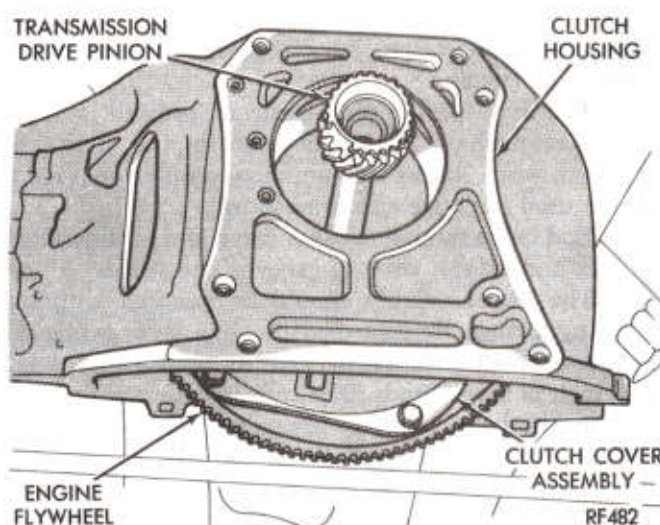

Fig. 4—Disc to Pilot Bushing Alignment
- (4) Insert a spare transmission drive pinion through the clutch disc hub to prevent the clutch disc from falling and damaging facings (Fig. 4).